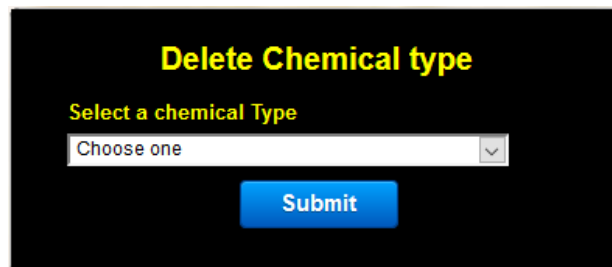

Fig. 24
1. This form allows you to delete a chemical type from your account.(See fig. 24)